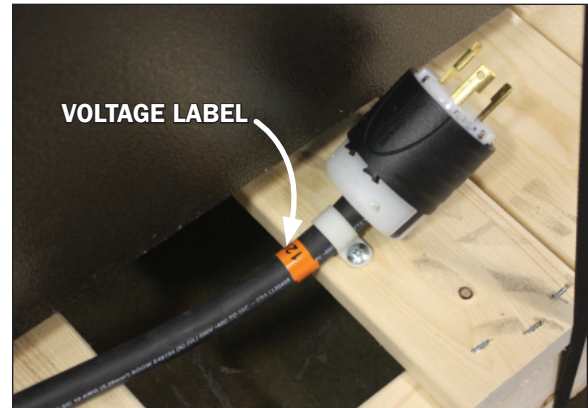

Fig. 10 Main power cord voltage label
Prior to plugging in and starting up the case always check the data tag located on the left end exterior panel or top interior of the case, as well as the voltage label found on the main power cord (Fig. 10) which can be found at the rear base panel. **Note:** **Check that the voltage of the receptacle you are going to use for power and the voltage required for the case match.**
3. After establishing power the light control switch located next to the power switch on the upper front exterior toe-kick panel, can be flipped to the ON position (Fig. 10). The case should now be fully operational and all lights functioning when in the ON position.